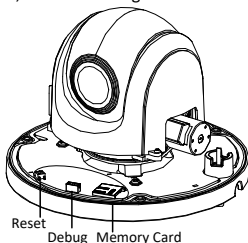

Figure 2-4 DE3xxx Series PTZ Camera
1. Loosen three screws on the bottom of camera to reveal the memory card slot, as shown in Figure 2-4.